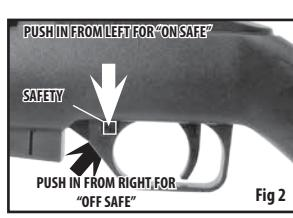

Fig 2
- ALWAYS keep the air rifle "ON SAFE" until you are ready to shoot (Figure 2).
- ALWAYS check to see if the air rifle is "ON SAFE" (Figure 2) and unloaded when removing it from storage.
- ALWAYS check to see if the air rifle is "ON SAFE" (Figure 2) and unloaded when handing it to, or receiving it from another person.
- Push the safety from the left side all the way in (Fig. 2). The safety is not "ON SAFE" unless it is pushed all the way in and the RED ring around the safety is not showing.